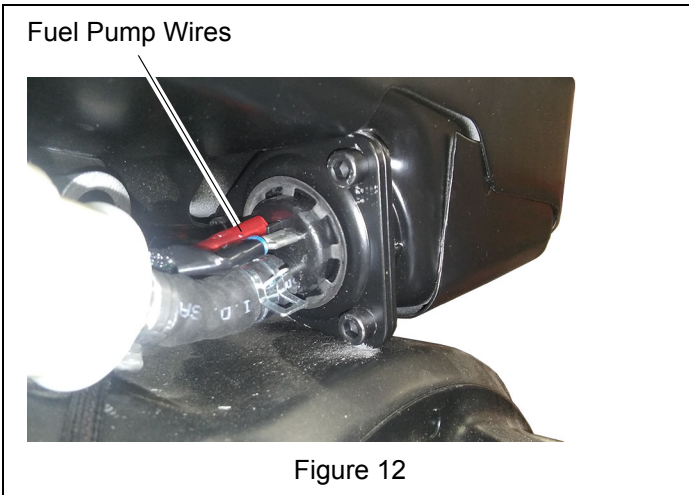

Figure 12
4. Check fuel pump wiring to ensure it is connected correctly. See Figure 12.